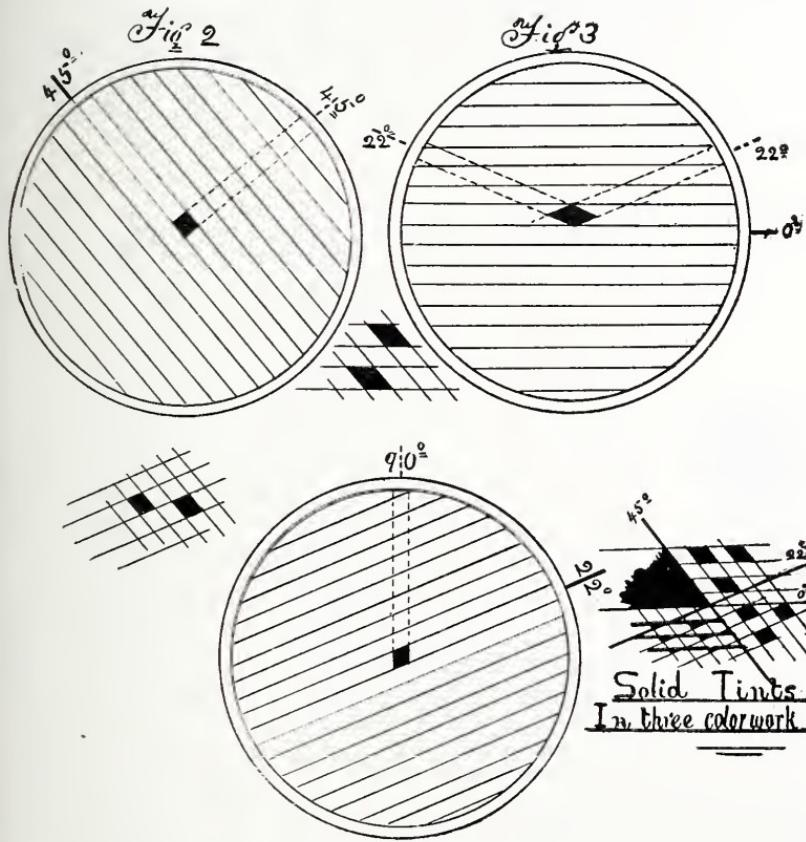
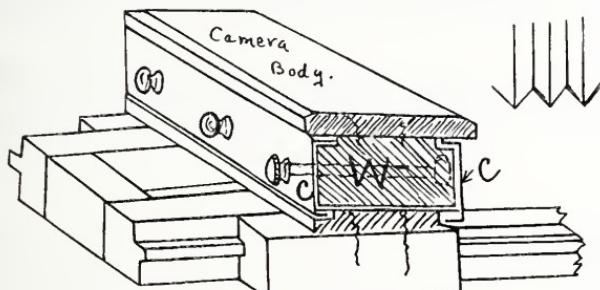

Fig. 4.
Fig. 5.
Fig. 4, with index at zenith and  $22^{\circ}$  left, gives a structure producing less of the picture and even more of the grating than we get with the old rectangular grating.
With the index at  $45^{\circ}$ , however, as projected from Fig. 2, and at  $22^{\circ}$  left, as shown in Fig. 4, we obtain entirely different results, a
The front being thus disposed of, the back must be given our attention. This must slide horizontally in order to give the required universal motion. In Fig. 4, S, S are the two guides to which the camera body (now removed) was fastened, these guides moving back
and forth on the bed B-B-B by means of a rack and pinion in the usual manner. They were connected together by a flat slab of wood, slightly chamfered on its two upper edges, thus forming two longitudinal recesses in which fit the two clamps shown in the next figure, this being a view of the same completed. To the bottom of the camera body was fastened a block of wood (W), corresponding in size and position to the slab on the guides, this block being slightly recessed on the edges which touch the camera bottom, for the purpose of keeping the guides (C, C) from falling out when loose. These guides are channel-shaped as shown, and run the whole width of the camera bed, and, sliding in the longitudinal grooves shown in Fig. 4, permit the back to be placed in any position, which does not strain the bellows too much. The back can now be fastened in the desired position by drawing the clamps C, C
together on the brass plate which is fastened to the rack and pinion motion (see Fig. 4), by means of three thumb-screws acting on bolts passing completely through C, C and W, as shown in Fig. 5.